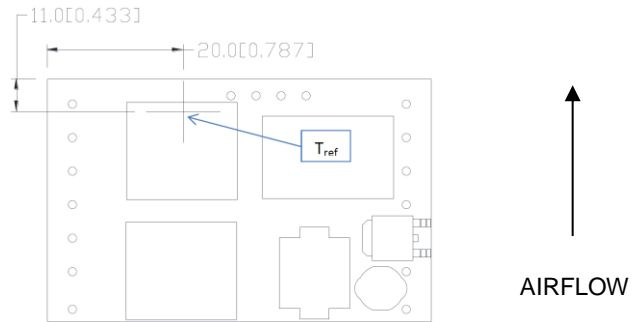
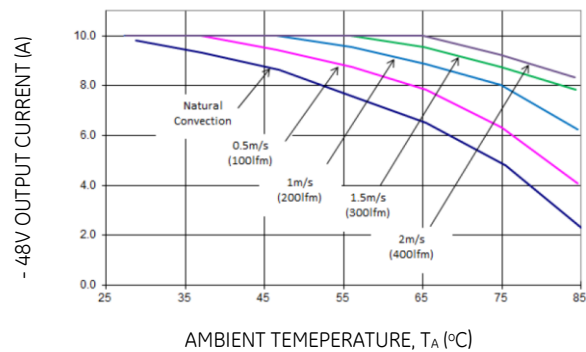

Figure 16. Tref Temperature Measurement Location.
Figure 17. -48V Output Current Derating for the Module; Airflow in the Transverse Direction from Pin7 to Pin1; Vin =48V & 3.3V @ 1.5A.
The thermal reference point, Tref, used in the specifications is shown in Figure 16. For reliable operation this temperature should not exceed 130°C. In addition, the output current of the module should not exceed the rated current for the module as listed in the Ordering Information table, or the derated current for the actual operating conditions as indicated in Figs. 17 & 18.
Increased airflow over the module enhances the heat transfer via convection. Derating curves showing the maximum output current that can be delivered by each module versus local ambient temperature (TA) for natural convection and up to 2 m/s (400 lfm) forced airflow are shown in Figures 17 & 18.